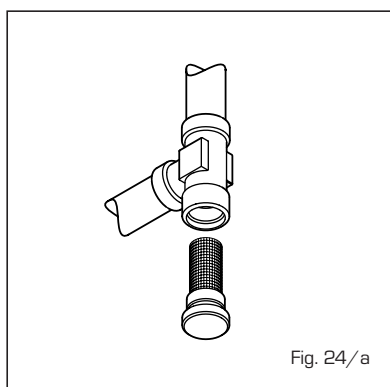

Fig. 24/a
4.7.2 Limpeza do "Aqua Guard Filter System" (fig. 24/a)